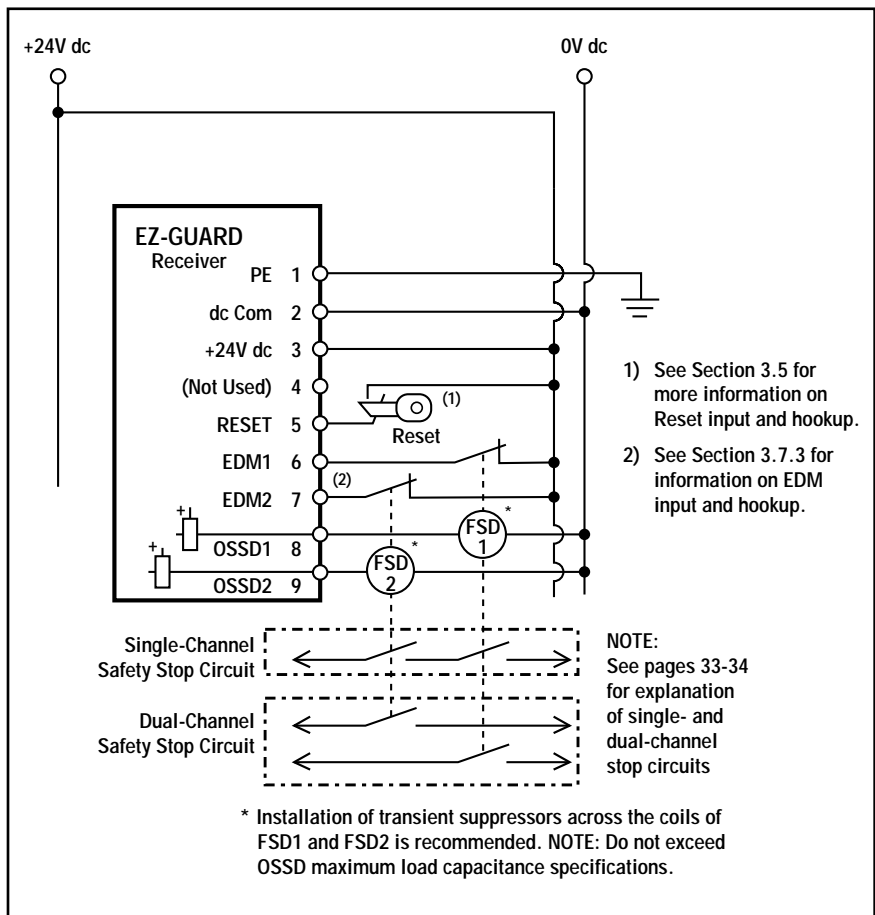

Figure 3-19. EZ-GUARD receiver generic hookup – FSD (2-channel EDM, key reset)
Final Switching Devices (FSDs) typically accomplish this when the OSSDs go to an OFF state. See Figure 3-19.
A common method of satisfying these requirements is the use of 2-channel control with monitoring, where a normally closed, forced-guided contact of each MPCE is wired as described in the section at left and as shown in Figures 3-19, 3-20 and 3-21.
Each of the two Machine Primary Control Elements (MPCE1 and MPCE2) must be capable of immediately stopping the dangerous machine motion, irrespective of the state of the other. These two channels of machine control need not be identical, but the stop time performance of the machine (T_s , used to calculate the separation distance, see Section 3.3.1) must take into account the slower of the two channels. Some machines offer only one Primary Control Element. For such machines, it is necessary to duplicate the circuit of the single MPCE to add a second. Refer to Figures 3-19 and 3-20 or consult the machine manufacturer for additional information.
External Device Monitoring: It is strongly recommended that one normally closed, forced-guided monitoring contact of each MPCE be connected to EDM inputs (see Figures 3-19 and 3-20). If this is done, proper operation of the MPCEs will be verified. MPCE monitoring contacts is one method of maintaining control reliability.
- **Two-channel monitoring** is a separate connection of closed monitor contacts that are forced-guided (captive contact) from each device controlled by the EZ-GUARD Point. The monitoring contacts should always change state (both open or both closed) within 200 milliseconds of the corresponding OSSD state change (turning on or off) or a lockout will occur (see Diagnostics, Section 5.1). Refer to Figures 3-19 or 3-20 for 2-channel EDM hookup. Connect the monitor contacts as shown between +24V dc and EDM1 (terminal 6) and between +24V dc and EDM2 (terminal 7). Set the configuration DIP switches to 2, per Section 4.1.